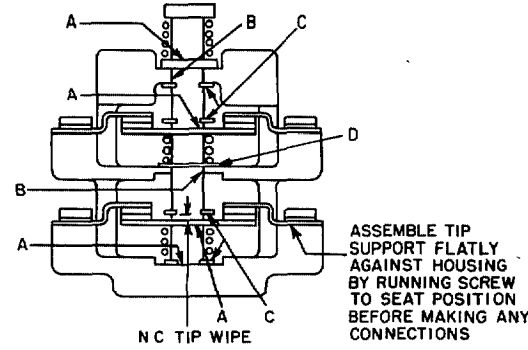
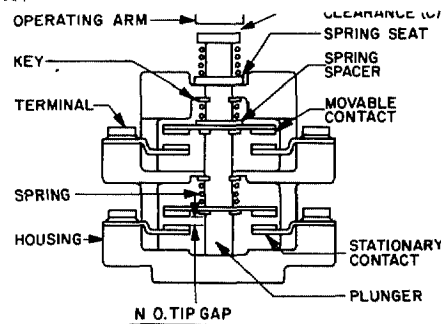

Fig. 7. Contact block with normally closed contacts in unoperated position.
Fig. 8. Contact block with normally open contacts in unoperated position.
These relays uses a contact block having internal parts which can be rearranged to give different contact arrangements. Should this be necessary the parts should be reassembled in accordance with Figs. 7, 8, or 9.
Spring ends must not protrude into holes (A), slots (B), or keys (C), which serve as guides for operating arm. See Fig. 7.
Contact blocks with two normally closed circuits require a spring spacer (D) as shown in Fig. 7 to assure that the center spring is properly in place. Because of the circuit rearrangement feature, a spring spacer is supplied with all other two-circuit contact blocks, as shown in Fig. 8 and 9.
The interlock should be positioned on its bracket so that with the relay in its energized position, the interlock plunger, Fig. 8, should not bottom, and with the contactor in its de-energized position, there should be some clearance (C) between the interlock plunger and the interlock operating arm, Fig. 8.